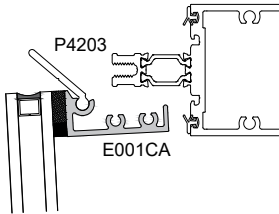

Fig. 49.1
- STEP 2: Set sill of assembled cassette frame on anchor clips P4223 and roll head of frame toward back member support framing as shown at Fig. 49.1.